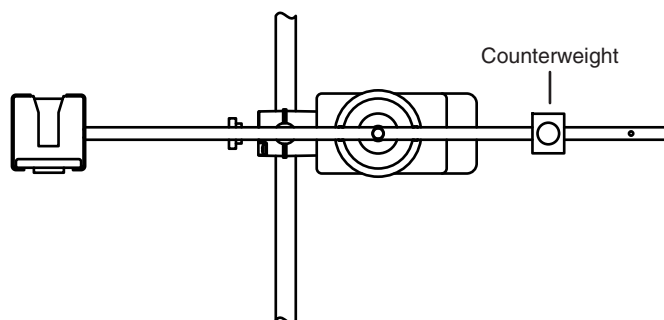

Figure 3.2: Pendulum balanced horizontally
2. Slide the counterweight onto the pendulum rod above the RMS attachment point. Adjust the position of the counterweight so the pendulum is perfectly balanced *without the ball*. If you release the pendulum in the horizontal position, it should not move. (See Figure 3.2.)